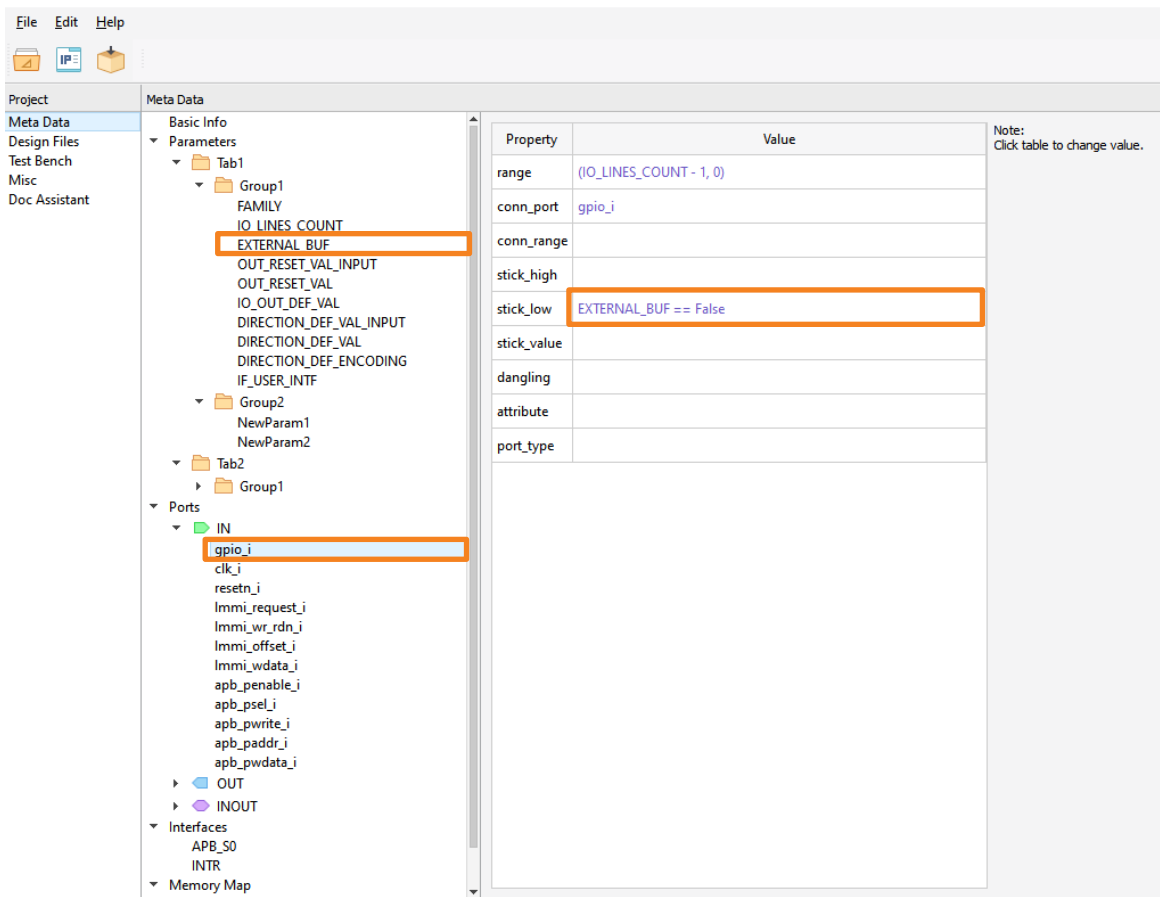

Figure 3.10. Preview on Parameters
- Parameters are settings that can be used in Ports/Interfaces/Memory map configuration. You can think of them as macros. For example, click on Port *gpio_i*, you can see its configuration. In *gpio_i*, there is a value using *EXTERNAL_BUF* that is defined in Parameters (Figure 3.10).